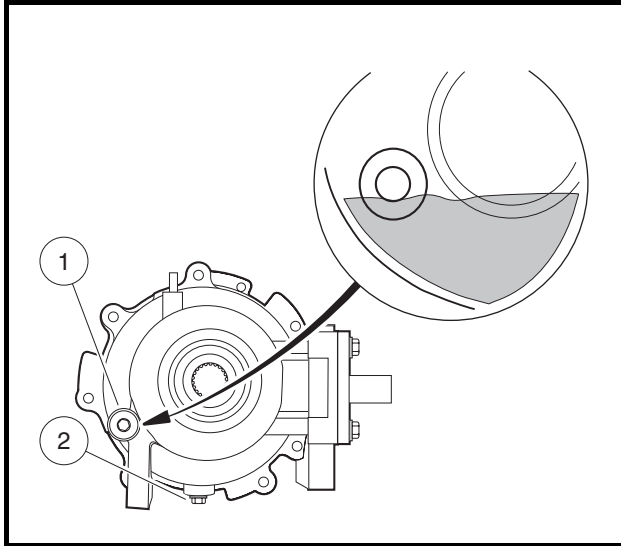
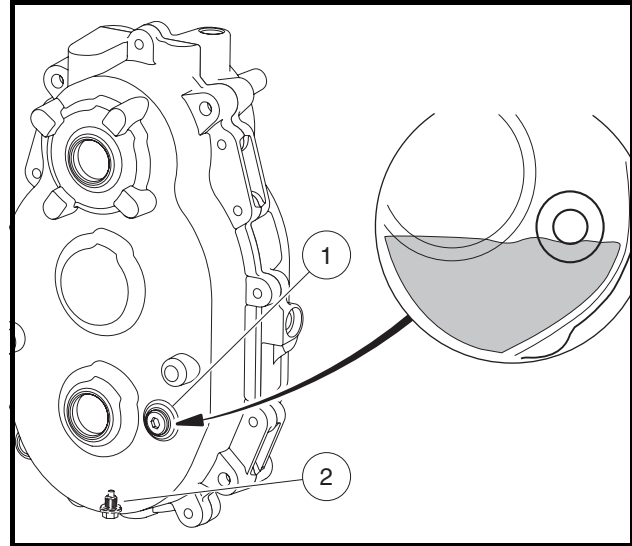
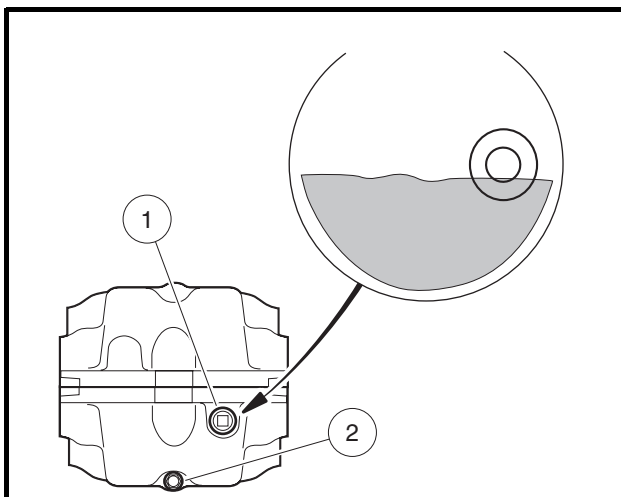

Figure 31 Front Differential Lubrication Level
Figure 32 Transmission Lubrication Level
Figure 33 Rear Differential Lubrication Level
Each gearcase component is equipped with two oil port plugs (1 and 2) (**Figure 31**, **Figure 32**, and **Figure 33**). When the vehicle is on a level surface, use the level indicator hole (upper plug) (1) as a lubricant level indicator. Lubricant level should be even with the bottom of level indicator hole (1).
Use the lower plug (2) for drainage (**Figure 31**, **Figure 32**, or **Figure 33**). Remove both plugs to allow the lubricant to drain faster. See preceding **NOTE**.
Clean and install the drain plug (2) and washer before filling the front differential with new lubricant (**Figure 31**). Tighten the drain plug to 9 ft-lb (12 N·m). Use a funnel when filling the front differential through the lubricant level indicator hole (1). See **Periodic Lubrication Schedule on page 32**. Tighten the level indicator plug to 10 ft-lb (14 N·m).
Clean and install the drain plug (2) before filling the transmission with new lubricant (**Figure 32**). Tighten the drain plug to 8 ft-lb (11 N·m). Remove the fill plug from the top of the transmission case and use a funnel to fill the transmission with lubricant. **See Periodic Lubrication Schedule on page 32.** Apply Loctite 567 to the threads of the fill plug and tighten to 21 ft-lb (28 N·m).
Clean and install the drain plug (2) and washer before filling the rear differential with new lubricant (**Figure 33**). Tighten the drain plug to 8 ft-lb (10.8 N·m). Use a funnel to fill the differential through the lubricant level indicator hole (1). **See Periodic Lubrication Schedule on page 32.** Apply Loctite 567 to the threads of the level indicator plug and tighten to 21 ft-lb (28 N·m).